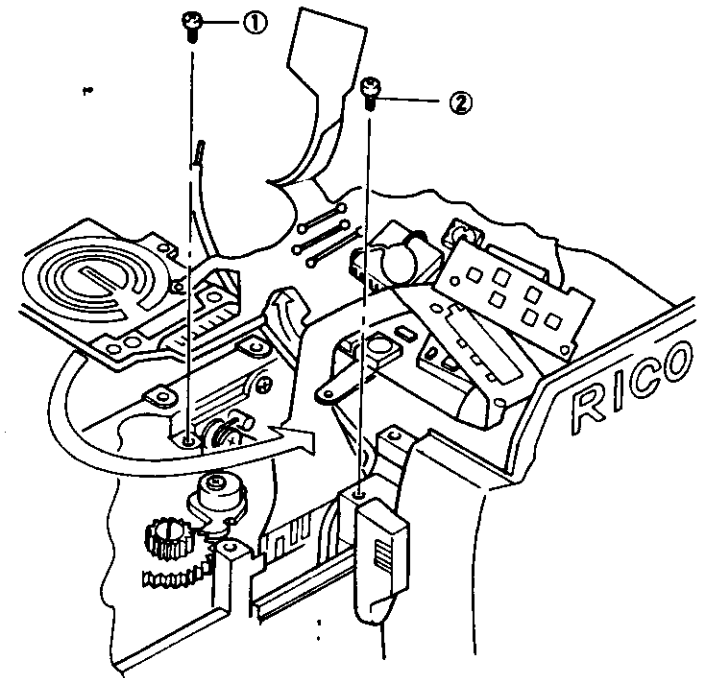

Fig. 7
- 7) Take off two SCREWS Nos. 1 and 2 shown in Fig. 7.